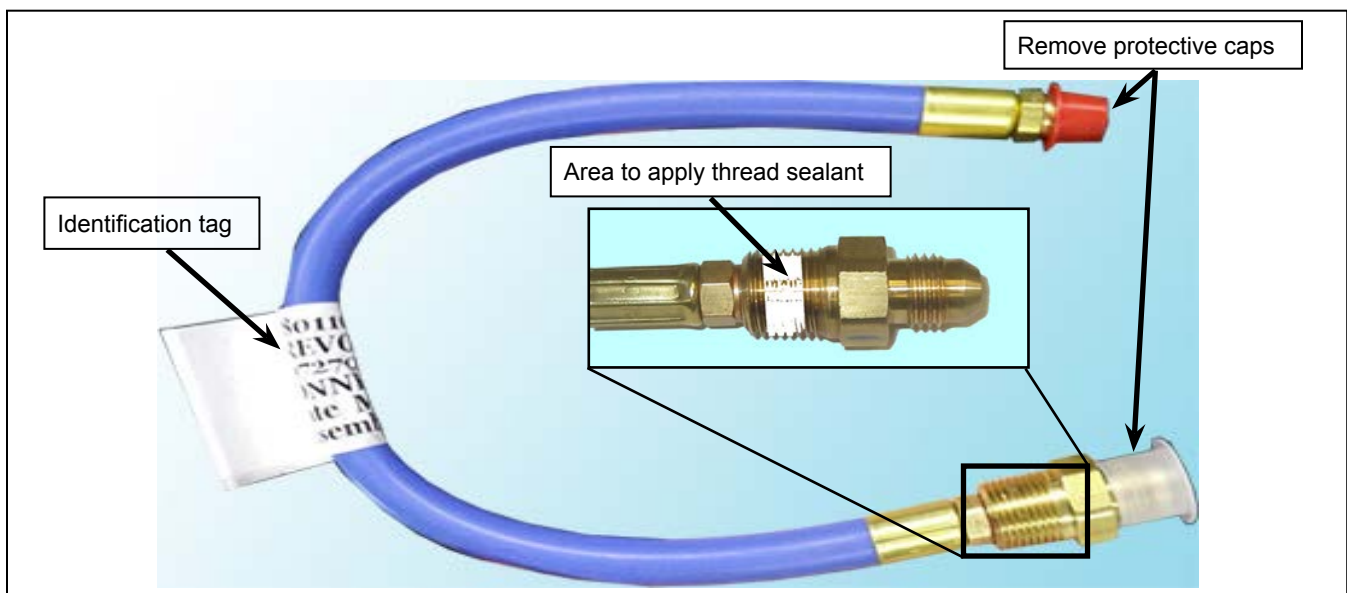

Figure 3 - New Supply Tube N80110-02
- 1.5. Remove the protective caps and identification tag then apply a thin coat of thread sealant on the thread of the new N80110-02 supply tube fitting. See Figure 3.